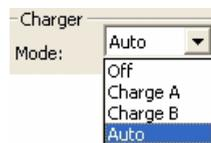

Figure 2-5. Select Charger mode
5. Select the *Charger Mode* drop-down list to set the desired charger mode (Figure 2-10 on page 2-12). Current Mode displays the charging battery: a, b, ab, or none (off) (Figure 2-5).